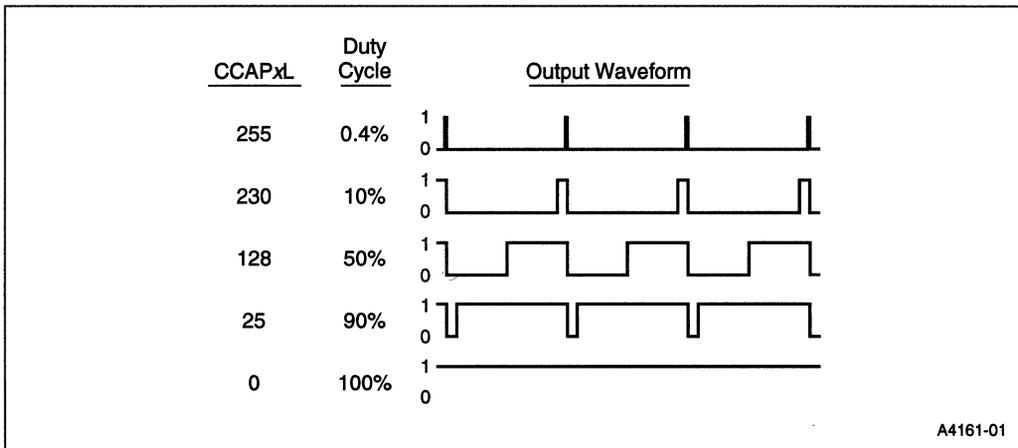

Figure 8-6. PWM Variable Duty Cycle
In this mode the value in the low byte of the PCA timer/counter (CL) is continuously compared with the value in the low byte of the compare/capture register (CCAP_xL). When $CL < CCAP_xL$, the output waveform (Figure 8-6) is low. When a match occurs ($CL = CCAP_xL$), the output waveform goes high and remains high until CL rolls over from FFH to 00H, ending the period. At rollover the output returns to a low, the value in CCAP_xH is loaded into CCAP_xL, and a new period begins.
The value in CCAPxL determines the duty cycle of the current period. The value in CCAPxH determines the duty cycle of the following period. Changing the value in CCAPxL over time modulates the pulse width. As depicted in Figure 8-6, the 8-bit value in CCAPxL can vary from 0 (100% duty cycle) to 255 (0.4% duty cycle).